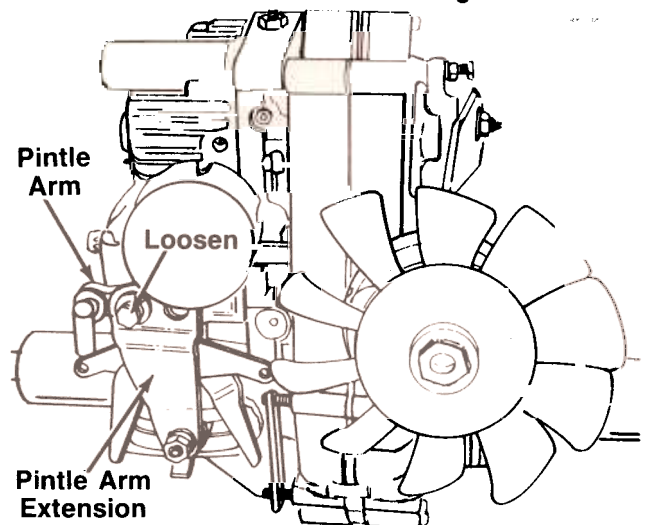

FIGURE 14.—Top View of Transmission
4. Loosen the hex bolt which secures the pintle arm extension to the pintle arm, using a ratchet wrench with 1/2" socket extension. See figure 14.